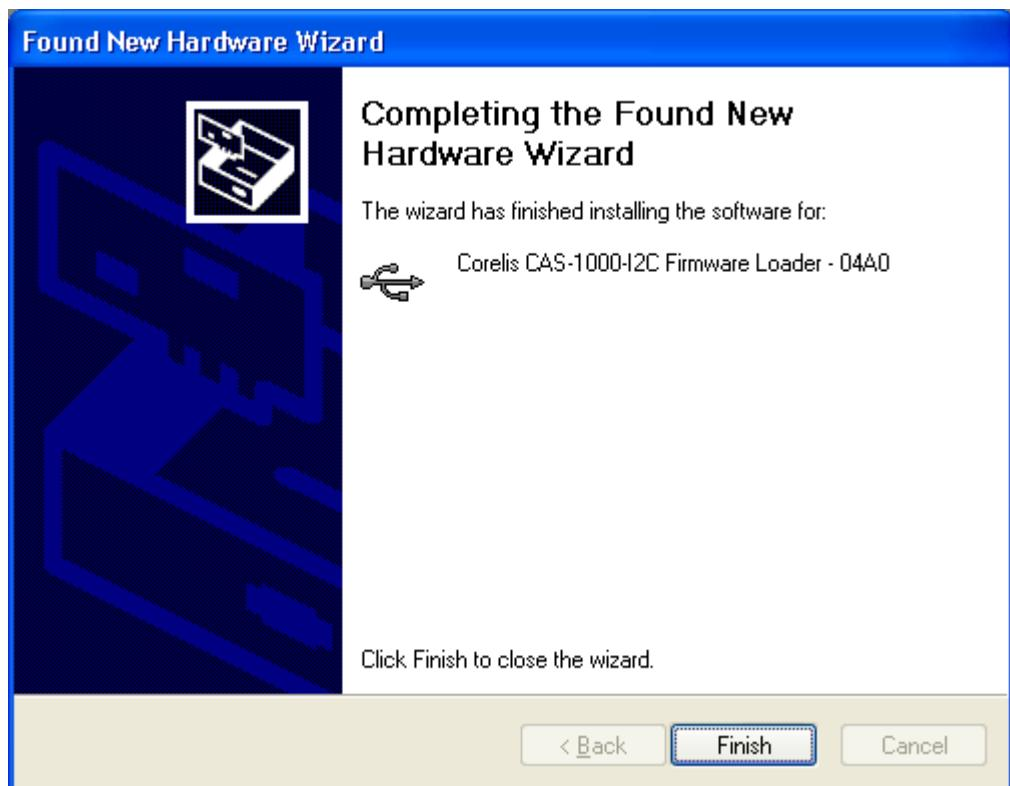

Figure 17. Found New Hardware Wizard – Installation Complete (Windows XP)
- After the necessary files are copied to the system, the dialog box shown in Figure 17 will appear indicating that the driver has been successfully installed.